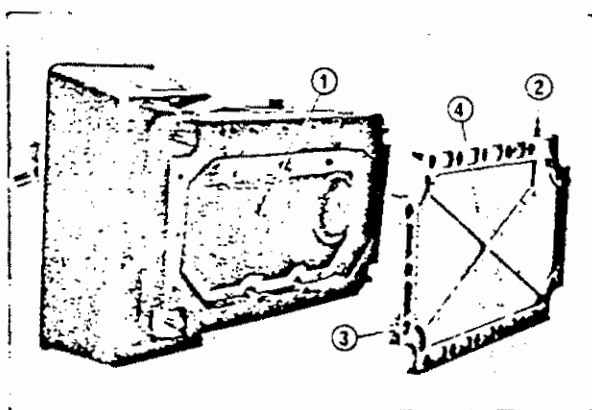

Fig 6
- ① If you use an undesignated oil, it might invite scorching of parts and oil leakage. So, be sure to use the designated Defrix Oil No. 2 only.
- ② There is an oil reservoir at the bottom of the frame which is covered by a filter screen ① Fig. 6. Occasionally some threads stick to this screen. Clean up this screen at least 2 or 3 times a year. To do so, first, remove the drain screw ② Fig. 6, then remove the bottom plate set screw ③ and remove the bottom plate ④. In doing so, be careful not to damage the gasket since this can lead to oil leakage.